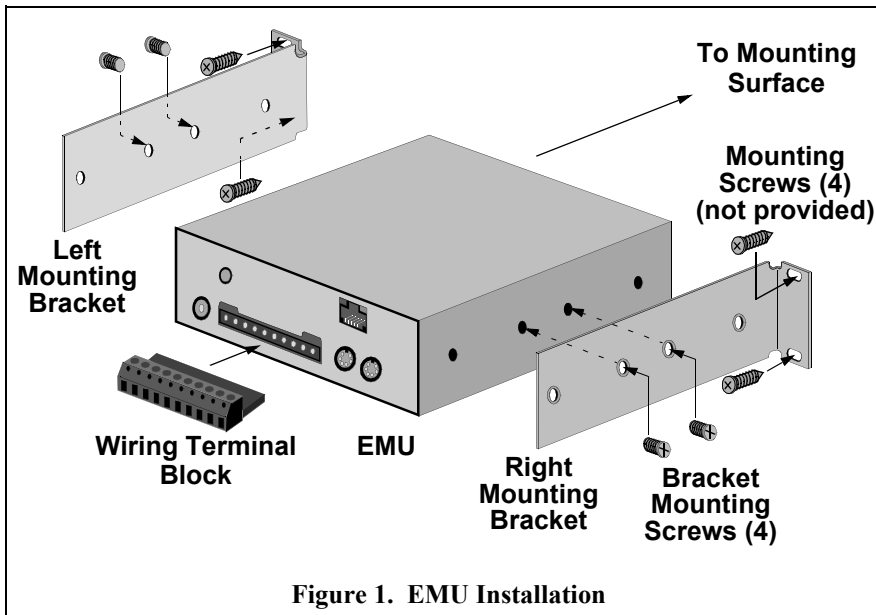

Figure 1. EMU Installation
1. Attach the two supplied mounting brackets to the sides of the EMU using the four 8-32 x 3/8" Bracket Mounting Screws (provided). The flanges are to face as shown in Figure 1.